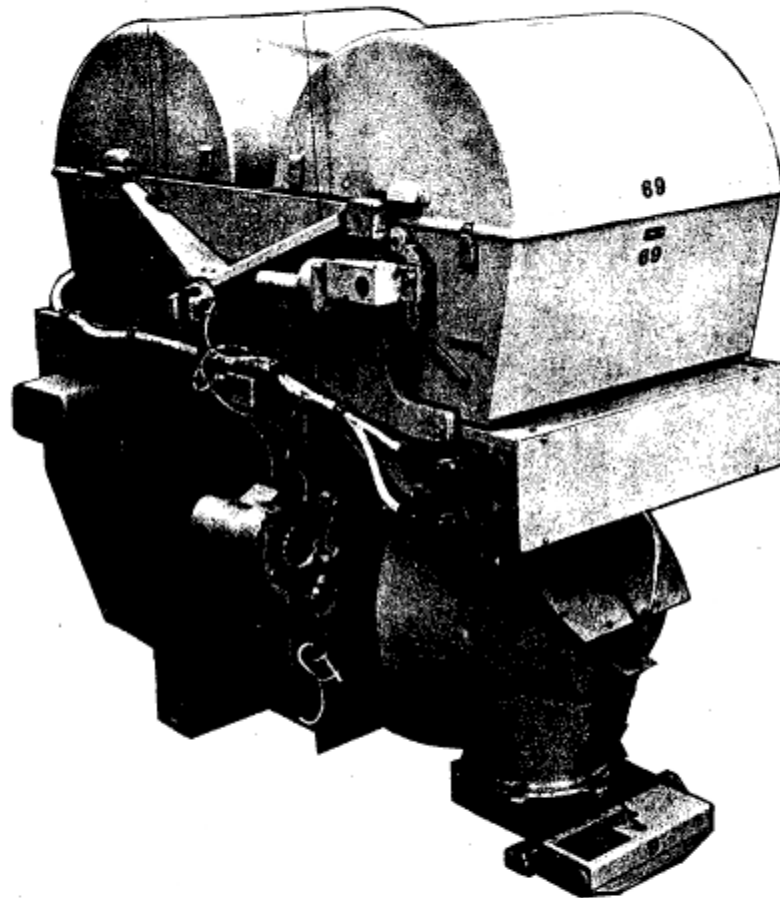

Figure 3-2. Q-Bay Package Type III Physical Description
- 3-4. The Type III package consists of a single assembly which mounts directly to the vehicle through vibration isolators. See Figure 3-2.